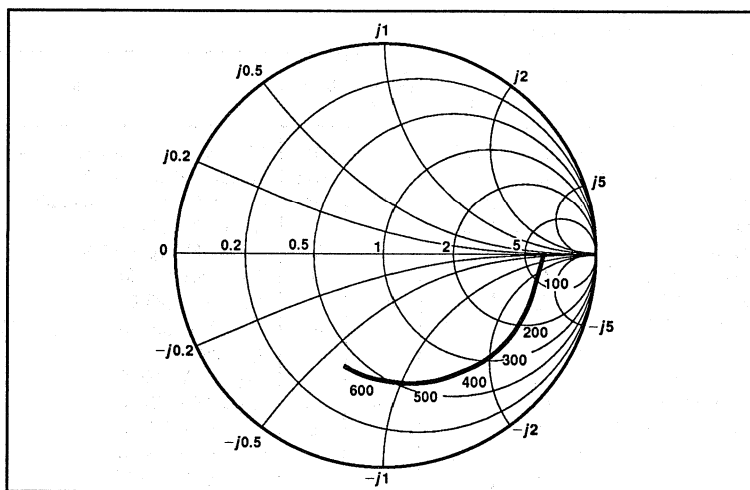

Fig. 5 Typical input impedance. Test conditions: Supply Voltage = 5V, Ambient Temperature = 25°C. Frequencies in MHz, impedances normalised to 50Ω.
7. Input impedance is a function of frequency. See Fig. 5.